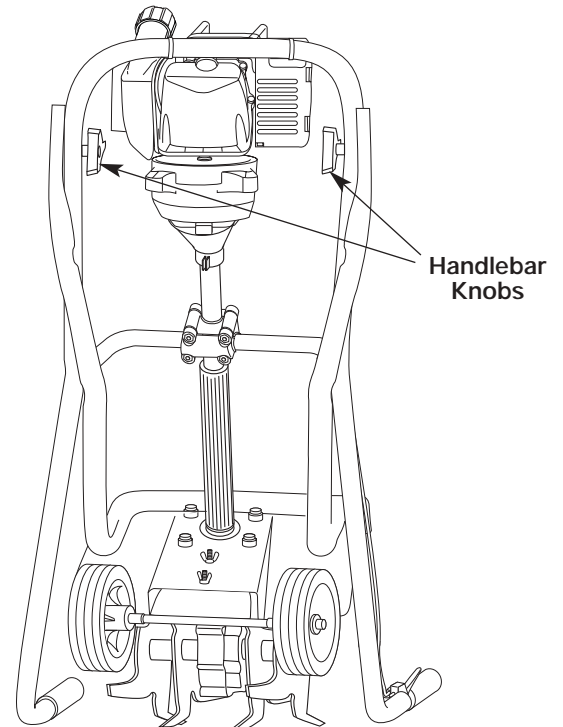

Fig. 35
6. To take up less storage area, loosen the handlebar knobs and fold the handlebar down, (Fig. 35). The unit is ready for storage.
3. Fold the handlebars down as shown (Fig. 35).